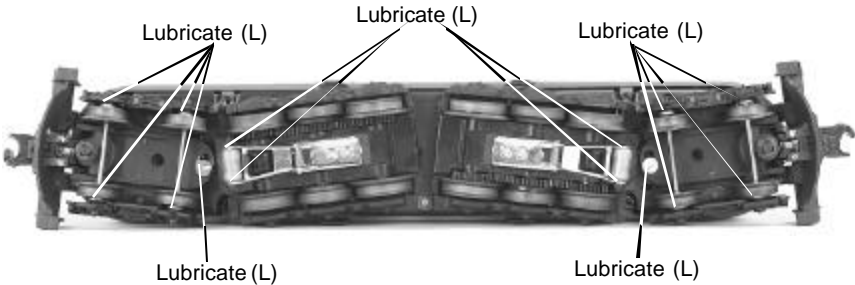
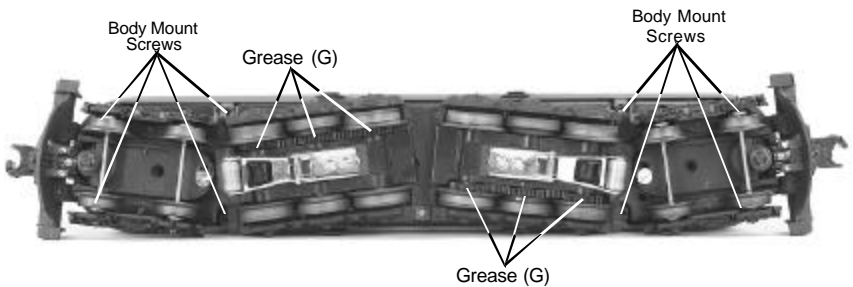

Figure 2. Lubrication Points on the Locomotive
Figure 3. Greasing Points on the Locomotive and the Locations of the Body Mounting Screws.
Although the engine was lubricated at the factory, it is important that you lubricate the chassis before operation. Lightly grease the outside idler and drive gears (marked “G” in Fig. 3 on page 10) to prevent them from squeaking. Use light household oil and follow the lubrication points marked “L” in Fig. 2 on page 9. Do not over-oil. Use only a drop or two on each pivot point.
You should regularly lubricate the pickup rollers to prevent them from squeaking. Use light household oil and follow the lubrication points marked "L" in Fig. 2. Do not over oil. Use only a drop or two on each pivot point.
1. Remove the screws from the chassis, as seen in Figure 3 on page 10, then lift the body away from the chassis.
It is also a good idea to lubricate the outside truck block idler and drive gears with grease occasionally. Add grease to the points marked with “G” in Figure 3.